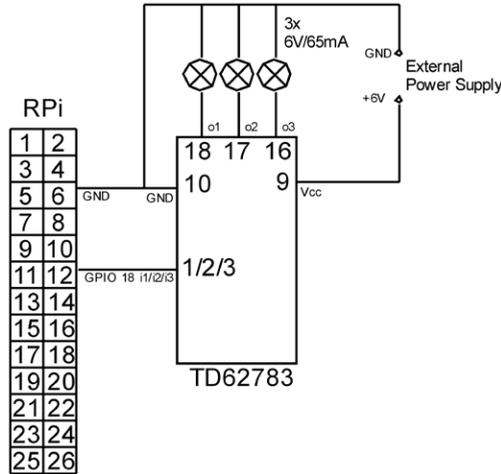

Figure 7.7. Some lights connected to the TD62783.
You can of course use different lights as long as they stay within the specifications of the TD62783. Since we're connecting three lights, we also use three inputs, which are all connected to GPIO 18 (pin 12 on the header).49 The ground of the Raspberry Pi and adjustable power supply have to be connected together. The +3.3 V and +6 V obviously shouldn't be. The +3.3 V from the Raspberry Pi isn't actually used since the TD62783 takes its power from the  $V_{cc}$  pin (9), which is connected to the adjustable power supply. The circuit diagram is shown in Figure 7.7.